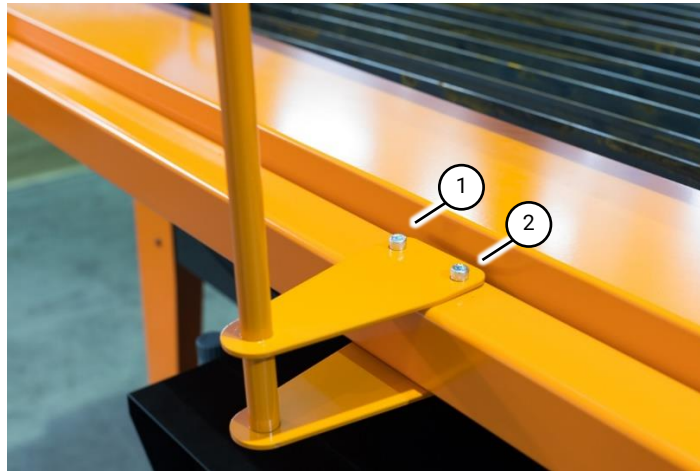

Fig 20 Cable support post
1. At the back of the table fit the cable post and secure using the screws provided in the fixings kit (Fig 20 (1) & (2)).